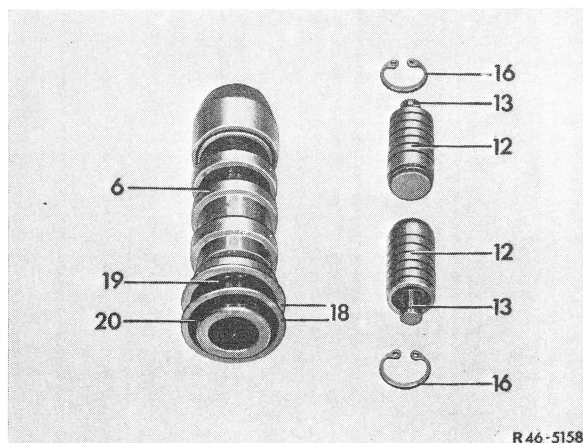
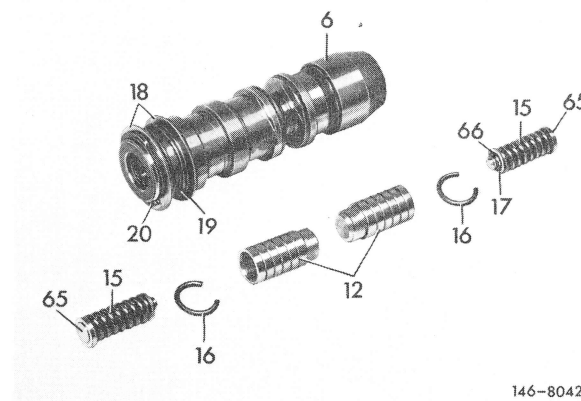
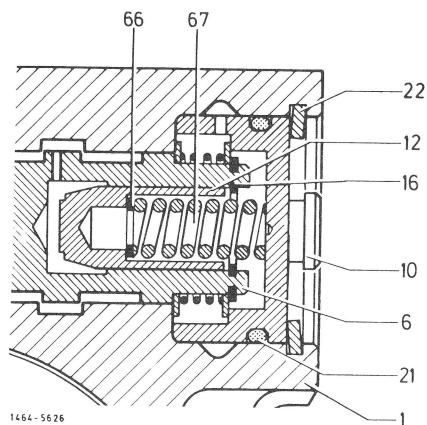

Fig. 8 Control valve version 1
Fig. 10 Control valve version 2
Fig. 12
Note: On version 1 of control valve the diameter of the reaction pistons is 11 mm and the supporting pistons (13) are secured in reaction pistons with locking rings (14) (Fig. 8 and 9). On version 2 (production as from the middle of 1972) the diameter of the reaction pistons (12) is 10 mm. Two spring bolts (65) are inserted in reaction pistons (Fig. 10 and 11). On control valve version 3 (production starting end of 1973) diameter of reaction pistons (12) is 11 mm. Compensating disc (66) and spring (67) are inside reaction piston (Fig. 12).
8 Check reaction piston (12) in control valve (6) for easy running. If required, remove reaction piston after removing locking ring (16) and clean. (Fig. 10 and 11).
Note: Do not disassemble spring bolts (65), since spring preload has been set by means of compensating washers (17) (Fig. 10 and 11).
9 Check reaction piston (12) in control valve (6) for easy running. If required, remove reaction piston after removing locking ring (16) and clean (Fig. 12).